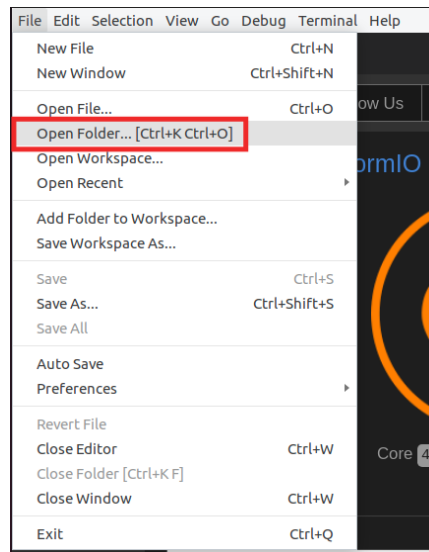

Figure 81. Open the AL_Operations.S example
3. On the top bar, click on *File→Open Folder...* (Figure 81), and browse into directory *[RVfpgaPath]/RVfpga/examples/*